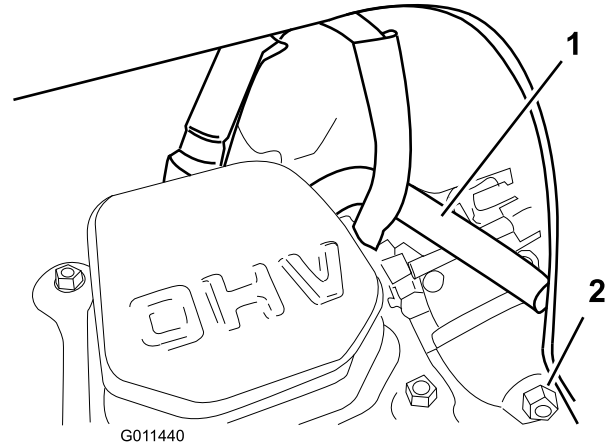

Figure 33
Note: Ensure that the breather tube is routed above the spark plug wire as shown in Figure 33.
6. Drain the fuel in the carburetor through the carburetor drain bolt (Figure 33) into an approved gasoline container.